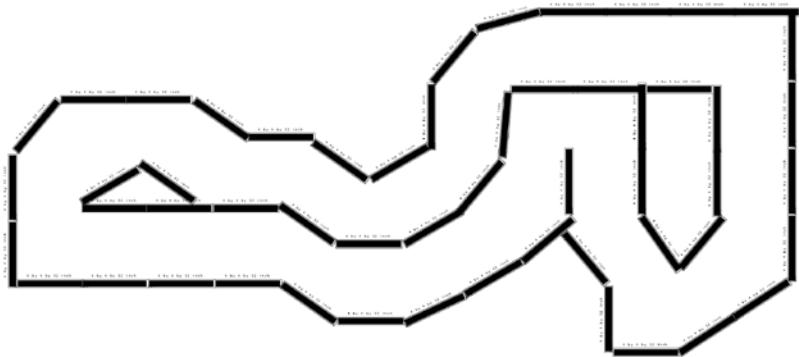

Figure 12. The Formula 1 race track at Austin Texas can be built with 54 pieces of 4 by 4 wood.
*Construction approach 1:* One very flexible approach to building the arena is to use individual 4 by 4 pieces of wood, see Figure 12. Wood this size is heavy enough to be placed on the floor without fastening the pieces together.